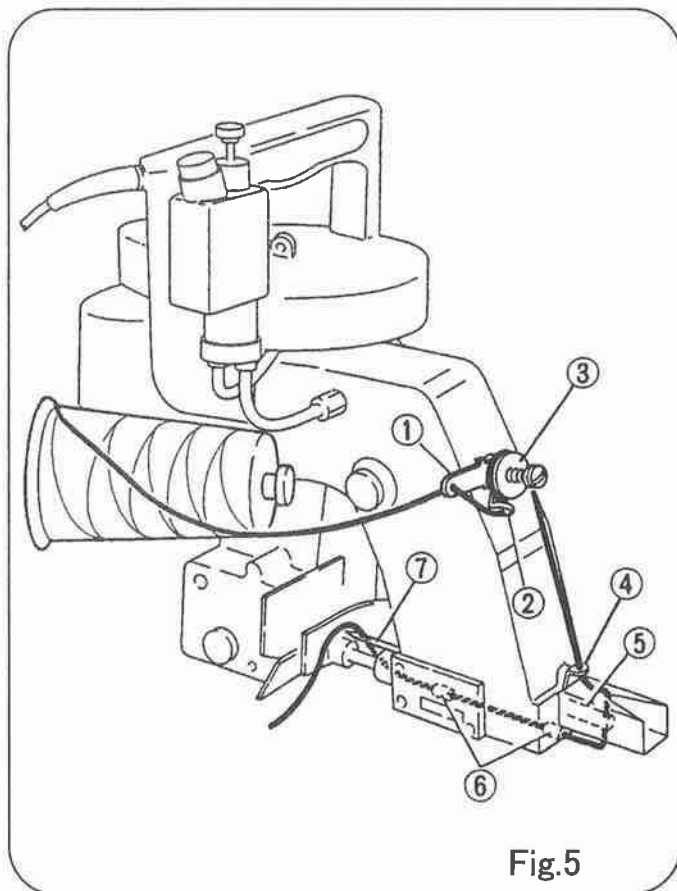

Fig.5
- Confirm that the machine has been threaded as per Fig.5 in the manual.
3.Threading (Fig.5)
The machine is delivered being threaded to show you proper threading of the machine, which is shown in Fig.5, for identification. Follow the guide numbers 1 to 7 of Fig.5.